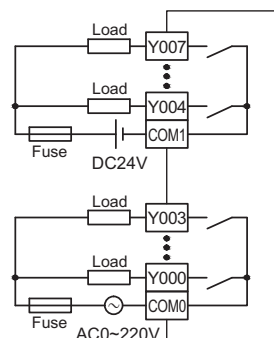

Figure 7 Equivalent circuit of relay output
The PLC input (X) is an externally powered DC24V sinker (passive NPN) and the input signal is isolated from the power supply. Connect COM to positive 24V of external power supply while using. Figure 7 shows the equivalent circuit diagram of the relay output module. The output terminals are several groups and each group is electrically isolated. Different groups of output contacts are connected to different power circuits.
Figure 7 shows the equivalent circuit diagram of the relay output module. The output terminals are several groups and each group is electrically isolated. Different groups of output contacts are connected to different power circuits.